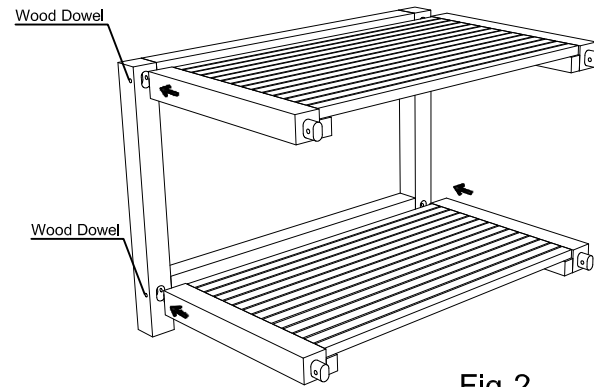

Fig 2
2. Put some glue into Top and Shelve mortise, insert into hole of leg. Put some glue around the wood dowels and insert into hole of leg (Fig. 2)